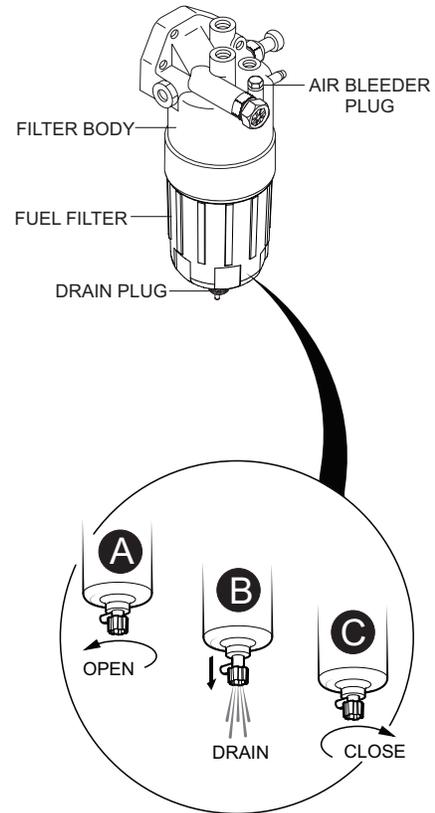

Figure 63. Draining The Fuel Filter
1. Loosen the **air bleeder plug** (Figure 63) on the fuel filter body.